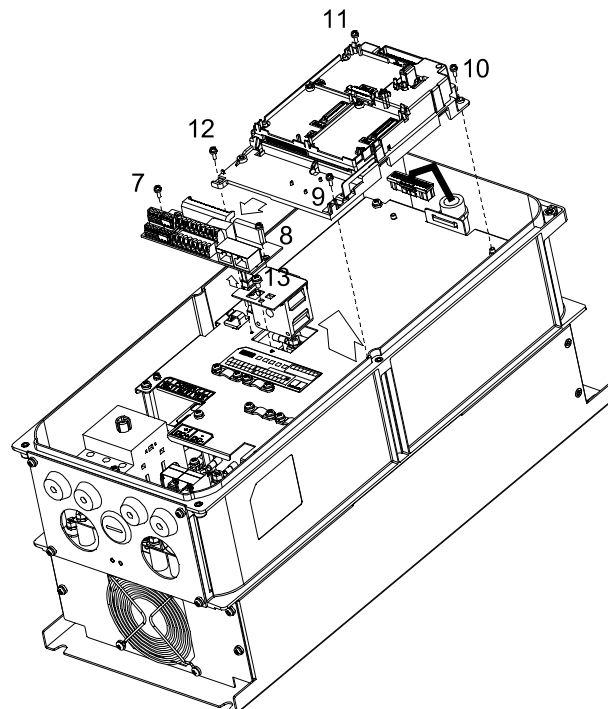

Figure 3
3. Loosen the screws 7–13 then remove the fan kit. (Refer to Figure 3)